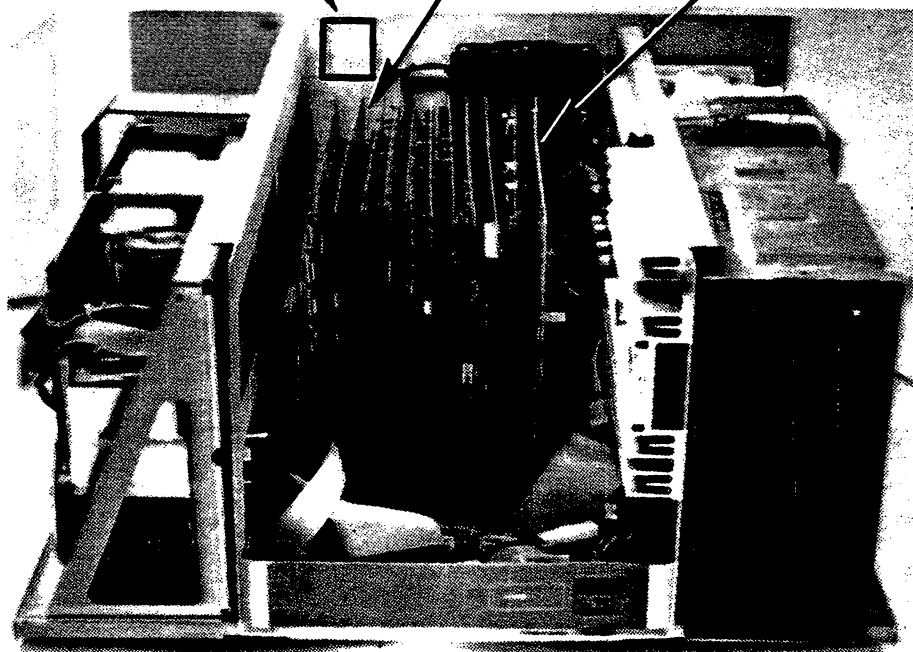

Figure 1. Component Locations
If the 2200 SVP system's rear panel does not contain a mounting plate hole (See Figure 1), a replacement rear plate (P/N 270-0683) must be ordered. Equally important, the 7846 option W requires that the system contains a 210-7588-1 (32K control memory) board (See Figure 1). Check to ensure this board is included before running the 2.4 MVP system software.
4. Remove the original 7789 board. See Figure 1.